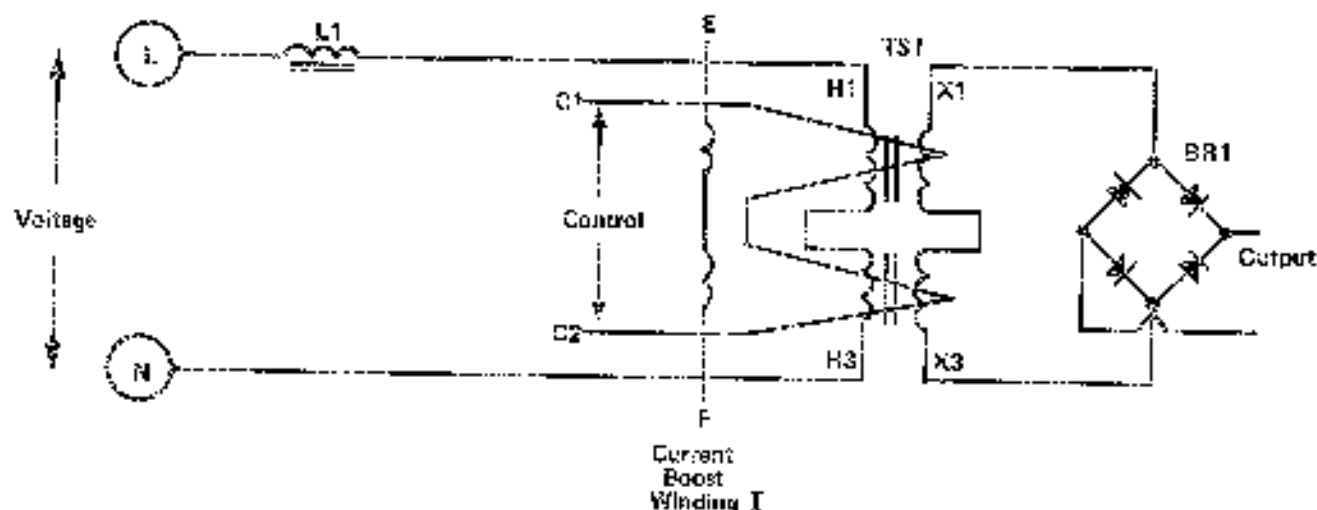

Figure 2 Magnetic Amplifier
| Figure 2 Magnetic Amplifier                                                                                      | 2  |
Voltage and current are combined magnetically in a saturable transformer, see figure 2 and TS1, figure 5 and 6. The saturable transformer is designed with a center winding (C), (2) to vary the output as an inverse proportional power amplifier, that is, increasing control signal results in reduced output. The saturable transformer requires about 300 ampere turns for control over a 10 to 1 range.